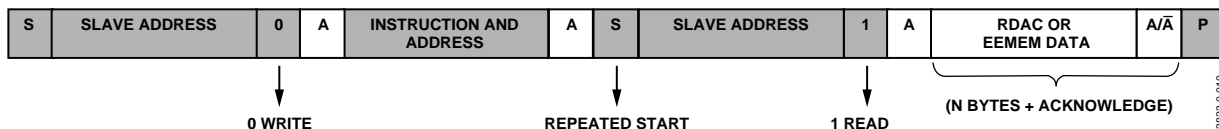
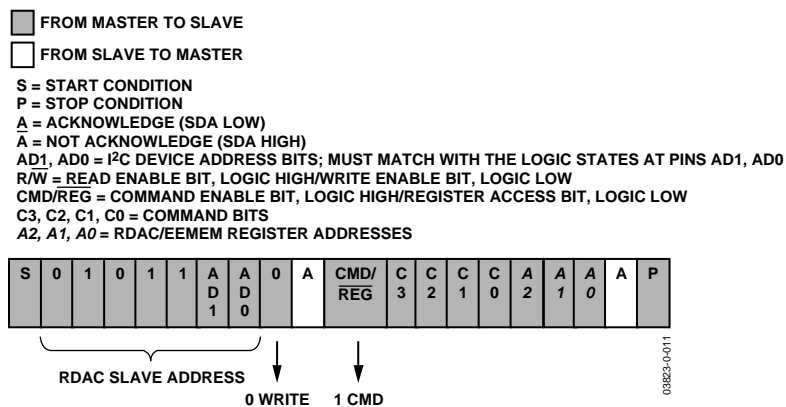
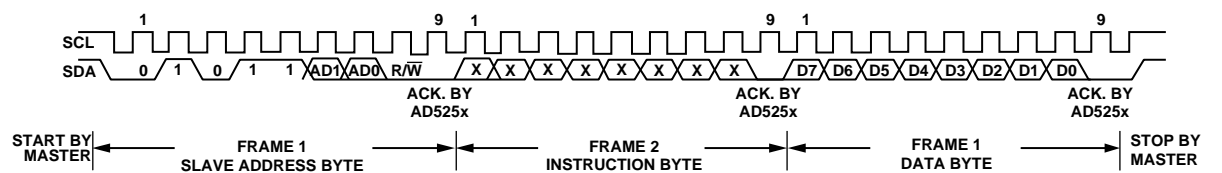
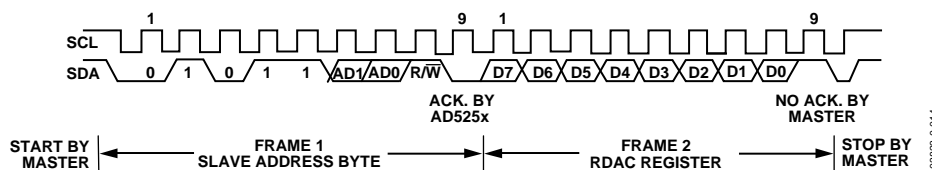

Figure 30. RDAC or EEMEM Random Read
Figure 31. RDAC Quick Command Write (Dummy Write)
Figure 33. General I²C Write Pattern
Figure 34. General I²C Read Pattern
Figure 30 illustrates a random RDAC or EEMEM read operation. This operation allows users to specify which RDAC or EEMEM register is read by issuing a dummy write command to change the RDAC address pointer and then proceeding with the RDAC read operation at the new address location.
The AD5251/AD5252 feature 12 quick commands that facilitate easy manipulation of RDAC wiper settings and provide RDAC-to-EEMEM storing and restoring functions. The command format is shown in Figure 31, and the command descriptions are shown in Table 9.
The first byte of the AD5251/AD5252 is a slave address byte (see Figure 33 and Figure 34). It has a 7-bit slave address and an R/\overline{W} bit. The 5 MSB of the slave address is 01011, and the next 2 LSB is determined by the states of the AD1 and AD0 pins. AD1 and AD0 allow the user to place up to four AD5251/AD5252 devices on one bus.
AD5251/AD5252 can be controlled via an I²C-compatible serial bus and are connected to this bus as slave devices. The 2-wire I²C serial bus protocol (see Figure 33 and Figure 34) follows:
1. The master initiates a data transfer by establishing a start condition, such that SDA goes from high to low while SCL is high (see Figure 33). The following byte is the slave address byte, which consists of the 5 MSB of a slave address defined as 01011. The next two bits are AD1 and AD0, I²C device address bits. Depending on the states of their AD1 and AD0 bits, four AD5251/AD5252 devices can be addressed on the same bus. The last LSB, the R/ \overline{W} bit, determines whether data is read from or written to the slave device.
the addresses of the EEMEM and RDAC registers (see Figure 27 and Figure 28). When MSB = 1 or when the device is in CMD mode, the four bits following the MSB are C3 to C1, which correspond to 12 predefined EEMEM controls and quick commands; there are also four factory-reserved commands. The 3 LSB—A2, A1, and A0—are addresses, but only 001 and 011 are used for RDAC1 and RDAC3, respectively (see Figure 31). After acknowledging the instruction byte, the last byte in the write mode is the data byte. Data is transmitted over the serial bus in sequences of nine clock pulses (eight data bits followed by an acknowledge bit). The transitions on the SDA line must occur during the low period of SCL and remain stable during the high period of SCL (see Figure 33).
3. In current read mode, the RDAC0 data byte immediately follows the acknowledgment of the slave address byte. After an acknowledgement, RDAC1 follows, then RDAC2, and so on. (There is a slight difference in write mode, where the last eight data bits representing RDAC3 data are followed by a no acknowledge bit.) Similarly, the transitions on the SDA line must occur during the low period of SCL and remain stable during the high period of SCL (see Figure 34). Another reading method, random read method, is shown in Figure 30.
4. When all data bits have been read or written, a stop condition is established by the master. A stop condition is defined as a low-to-high transition on the SDA line that occurs while SCL is high. In write mode, the master pulls the SDA line high during the 10th clock pulse to establish a stop condition (see Figure 33). In read mode, the master issues a no acknowledge for the ninth clock pulse, that is, the SDA line remains high. The master brings the SDA line low before the 10th clock pulse and then brings the SDA line high to establish a stop condition (see Figure 34).